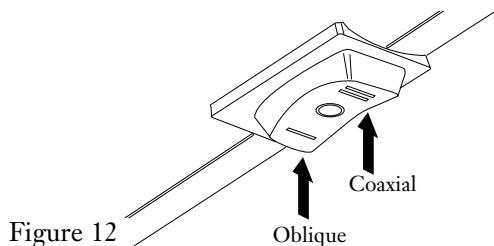

Figure 12
- b) Turn on the microscope light by pressing and holding in the rocker switch located on the bottom of the microscope body. Press down on the single bar end of the switch for oblique lighting or the double bar marked end for coaxial lighting (Figure 12).